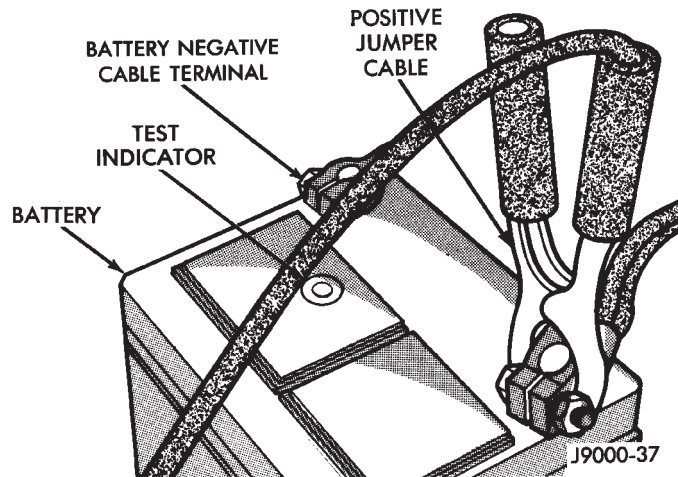

Fig. 4 Positive Jumper Cable Connection
(3) Attach a red jumper cable connector clamp to positive (+) terminal on booster battery. Attach other red cable connector clamp to positive (+) terminal on discharged battery (Fig. 4).